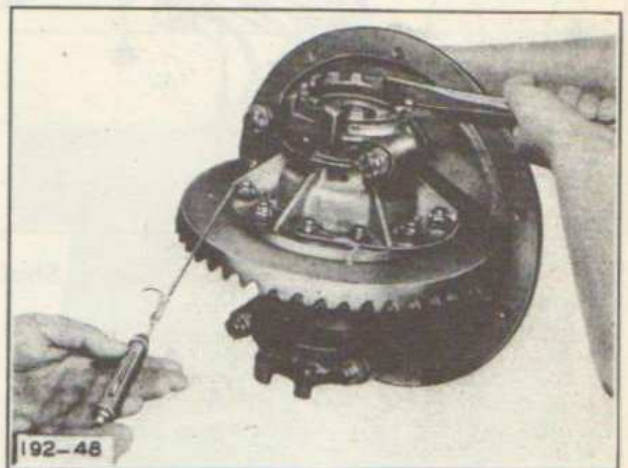

Fig. 46—Testing Bearing Adjustment
Remove screws (21) and pull out bevel pinion assembly. Adjust differential bearings. No side-play at all should be allowed, nor should the adjustment be too tight. The drag should be from 3 to 3½ pound-feet when turned by hand. Wrap tape or cord around flange of casing (13) and attach an ordinary 10-pound spring scale to end of cord. The pull should range between 8½ and 9½ pounds to keep assembly turning. (See Figure 46).